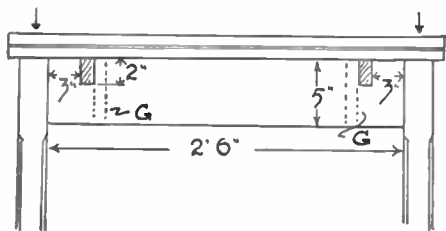

Fig. 2
A side section of the table is shown in Fig. 1, and an end elevation in Fig. 2. As the area dimensions are the same, the table being a square, measurements not found in Fig. 2, can be gained from Fig. 1. For construction, beech is suggested for the legs and oak or other suitable hardwood, which will take a stain to imitate it, are recommended for the rails and slides of the extending parts of the table top. For the tops, both extending and fixed, deal will serve for the frames, with a covering of $\frac{1}{4}$ in. plywood, thus avoiding the rather troublesome business of gluing boards together, edge to edge.
At one end of the table, shown in Fig. 2, a couple of slots are cut for the passage of the slides (to be dealt with later). Similar slots are cut for the same purpose in the opposite end, but as the slides working through these will be inside those of the opposite end, the position of the slots must be at distances of 4ins. from the legs, as will be fairly obvious. Glue all together, and knock the joints well home. Leave for a while for the glue to set hard. Metal plates, shown by dotted outline (G) could use-